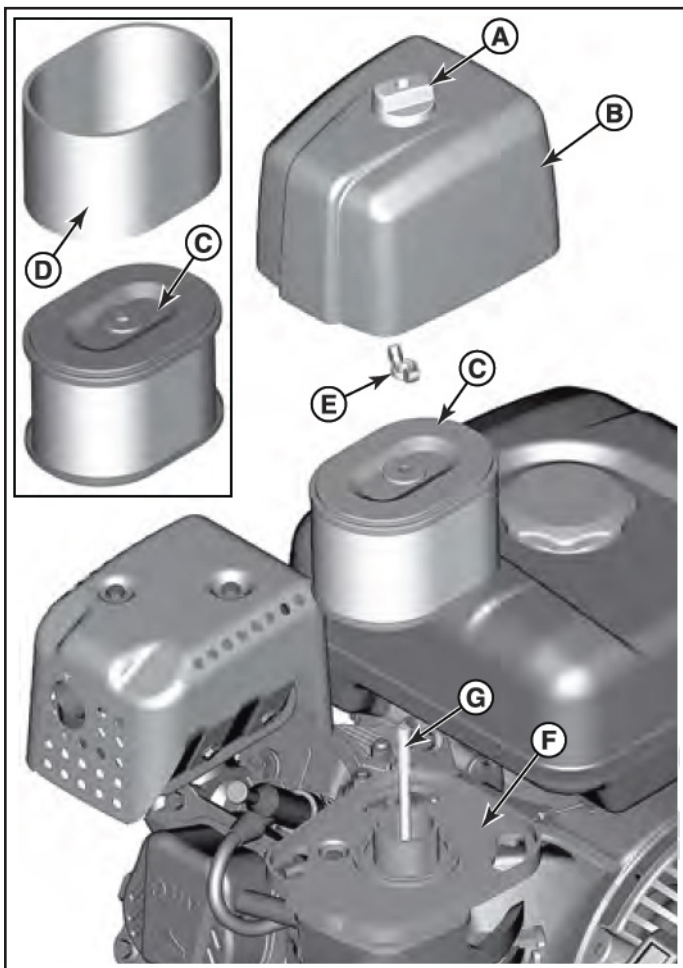

FIGURE 19
- Remove the cover **B** as shown in figure 19.
- To prevent debris from falling into the carburetor, carefully remove the pre-cleaner **D** and filter **C** from the air filter base **F**. See figure 19.
- Gently tap the filter **C** on a hard surface to loosen debris. If the filter is excessively dirty, replace with a new filter. See figure 19.
- Remove the pre-cleaner **D** from the filter **C**. See figure 19.
- Install the filter **C** and pre-cleaner **D** to air filter base **F** and onto stud **G**. Make sure filter is properly assembled to air filter base and secure with fastener **E**. See figure 19.
- Install the cover **B** and secure with fastener **A**. Make sure fastener is tight. See figure 19.